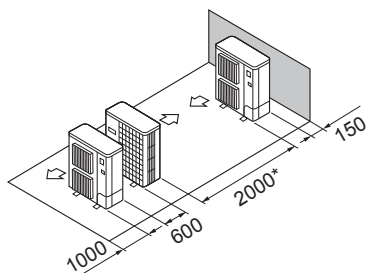

Fig. 2-13
- ⑤ Enkelt parallel enhed arrangement (Fig. 2-13)